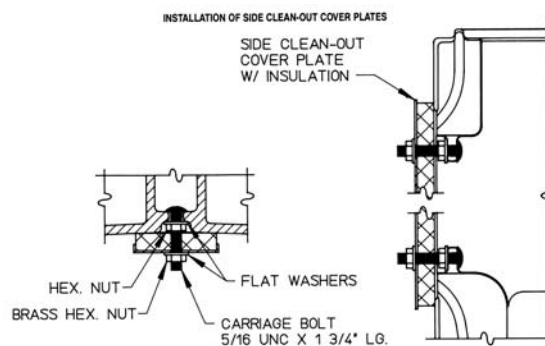

Figure 2.1: Side Clean-out Cover Plates
2. Remove clean-out cover plates and insulation (Item 25). Each clean-out cover plate is attached to the boiler by using two carriage bolts, nuts and washers (Item 24). Install the carriage bolts into the notch at the top and bottom of each clean-out opening, then secure them with a flat washer and steel nut as shown in Figure 2.1 locking them in place. Press the clean-out plate with insulation over the protruding carriage bolts until the bolts punch through the insulation so flat washer and brass nut can be installed. Tighten down nuts snugly compressing the insulation to form a good seal around the clean-out opening.